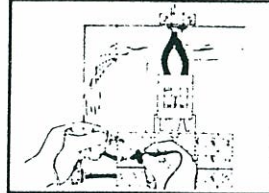

Fig. 4
4. Connect the test leads to device or circuit being measured. (Fig. 4)